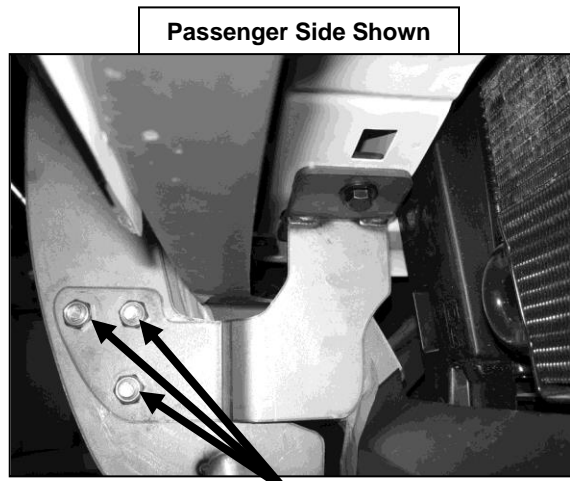

Figure 6
9. Position Grille Guard on the outer side of Mounting Brackets. Install Grille Guard onto Mounting Brackets using the included (6) 12-1.75mm x 30mm Hex Head Bolts, (6) 12mm Nylock Nuts, and (12) 12mm Flat Washers (Figure 6). Do not tighten at this time.